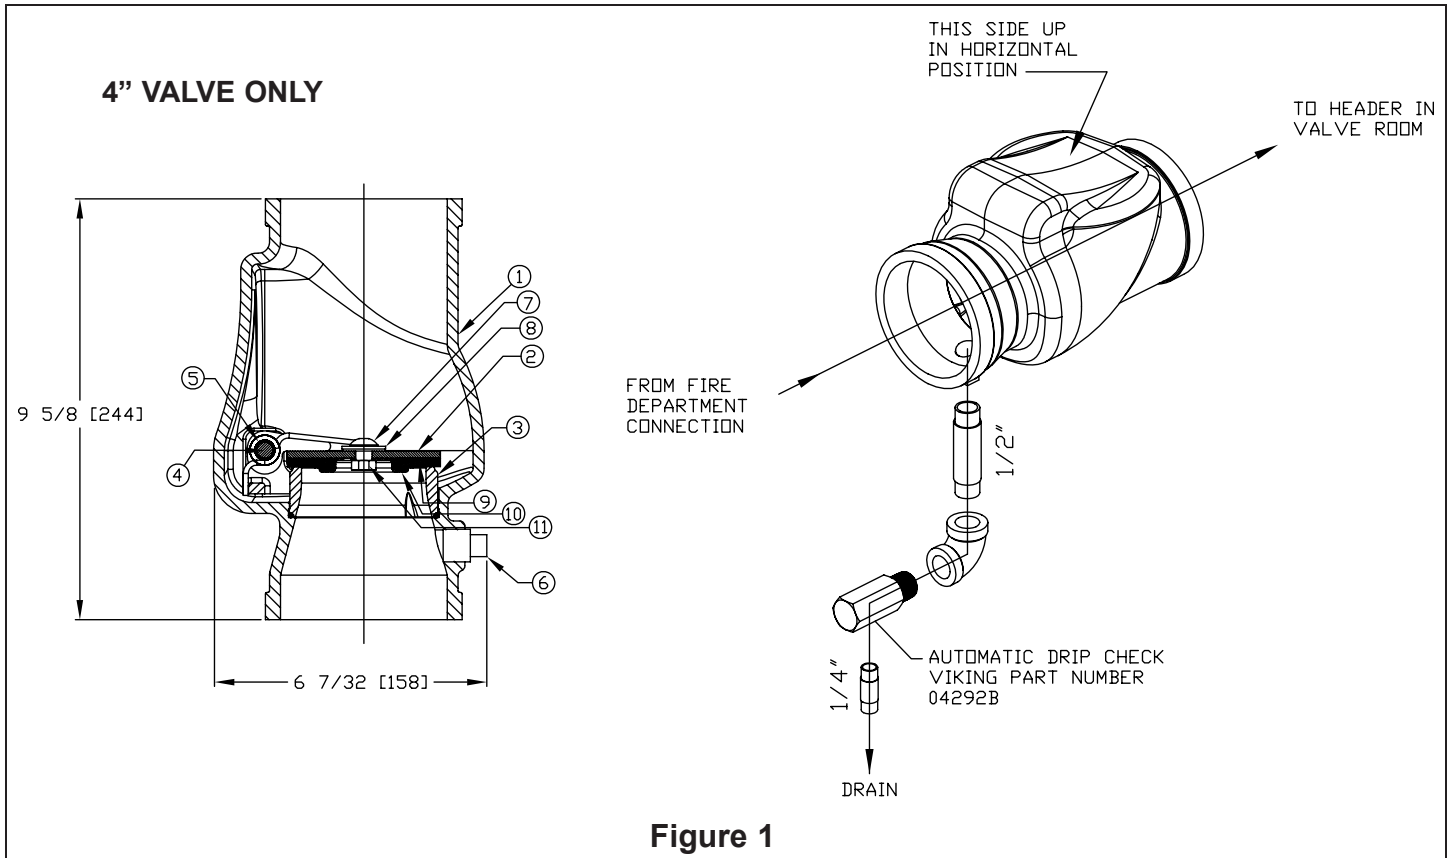

Figure 1
Refer to Figure 1
#### 5. OPERATION (Refer to Figure 1)
#### 6-A Five-Year Internal Inspection (Refer to Figure 1)
#### 6-B Maintenance (Refer to Figure 1)
2. To remove clapper rubber (9):
- a. Use the appropriate wrenches to loosen and remove button-head socket screw (7), hex nut (11), sealing washer (8), and rubber retainer (10).
- b. Remove the clapper rubber (9) for inspection. If the clapper rubber shows signs of wear, such as cracking, cuts, or excessively deep grooves where the rubber contacts the water seat, replace the rubber.
3. To re-install clapper rubber (9):
- a. Place the clapper rubber (9) over the center hub of the rubber retainer (10).
- b. Position the retainer (10) (with rubber in place) against the clapper (2) as shown in Figure 1.
- c. Replace and tighten the button-head socket screw (7), sealing washer (8), and hex nut (11). The sealing washer (8) must be located on the top side of the clapper assembly (2) as shown in Figure 1. DO NOT over-tighten.